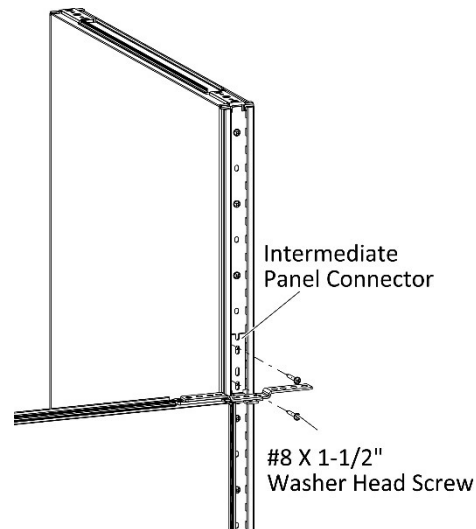

Figure 4
7. Drive two #8 X 1-1/2" Washer Head Screws through the holes in intermediate panel connector into the taller panel, (Figure 4).